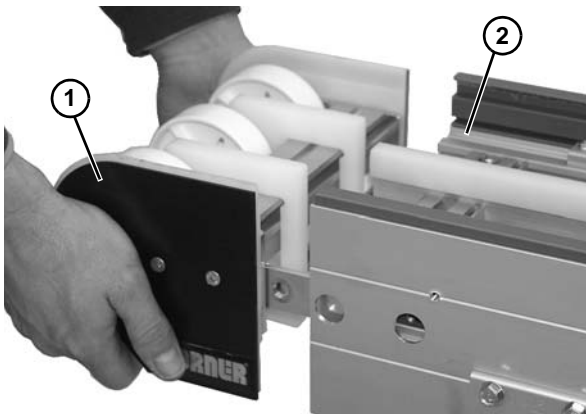

Figure 77
3. Remove idler assembly (Figure 77, item 1) from conveyor (Figure 77, item 2).